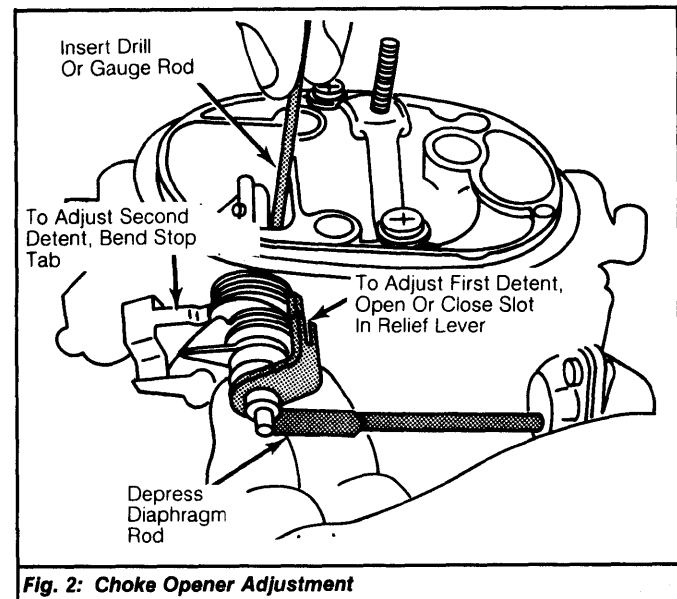

Fig. 2: Choke Opener Adjustment
6) To adjust choke opener, pull choke cable out to 1st detent. Depress choke opener diaphragm by hand. See Fig. 2. Insert gauge between upper edge of choke valve and air horn wall. Clearance should be .125" (3.17 mm) on 1974-77 models; .151-.171" (3.85-4.35 mm) on 1978-79 models.